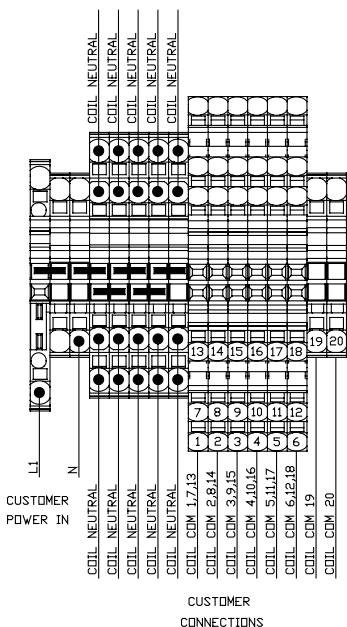

Figure 8: Purge Point & Power Wiring Diagram
11. Open the purger control panel to start wiring the purge points and power supply, see Figure 8 for wiring diagram. All common lines should tie together at the DIN rail terminal blocks.
Coil common, shown in Figure 8, on the purge point solenoids connections are common to the relay. Incoming line power (120/240 volts) should be supplied to these terminals. An incoming neutral should be supplied to one of each of the coil